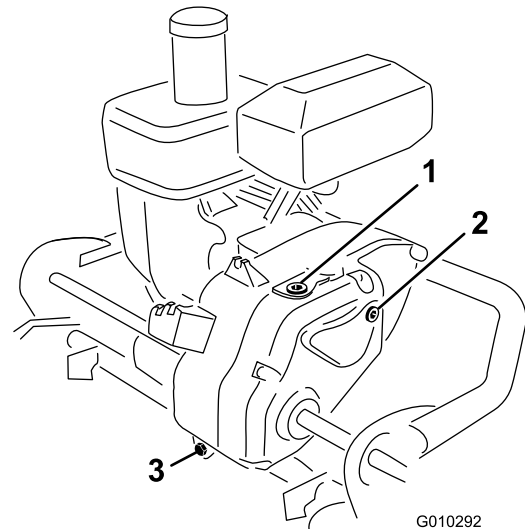

Figure 2
- C. Remove the fill plug, from the top of the transmission, and add enough Dexron III rated ATF lubricant until the level reaches the bottom of the check hole (Figure 2).
- B. Remove the check plug from the right-hand side of the transmission (Figure 2).